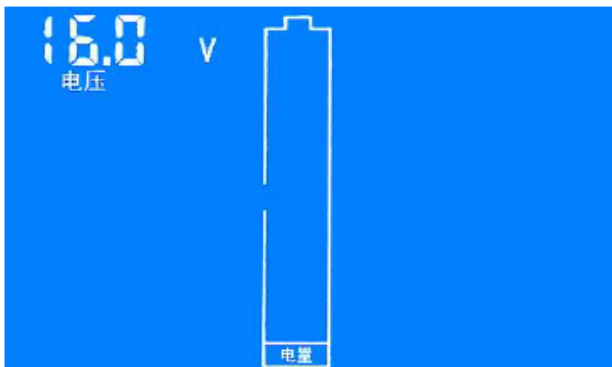

Figure 5: cut-off voltage setting interface
- VI. The screen will change to Figure 5. This is the cut-off voltage setting page.